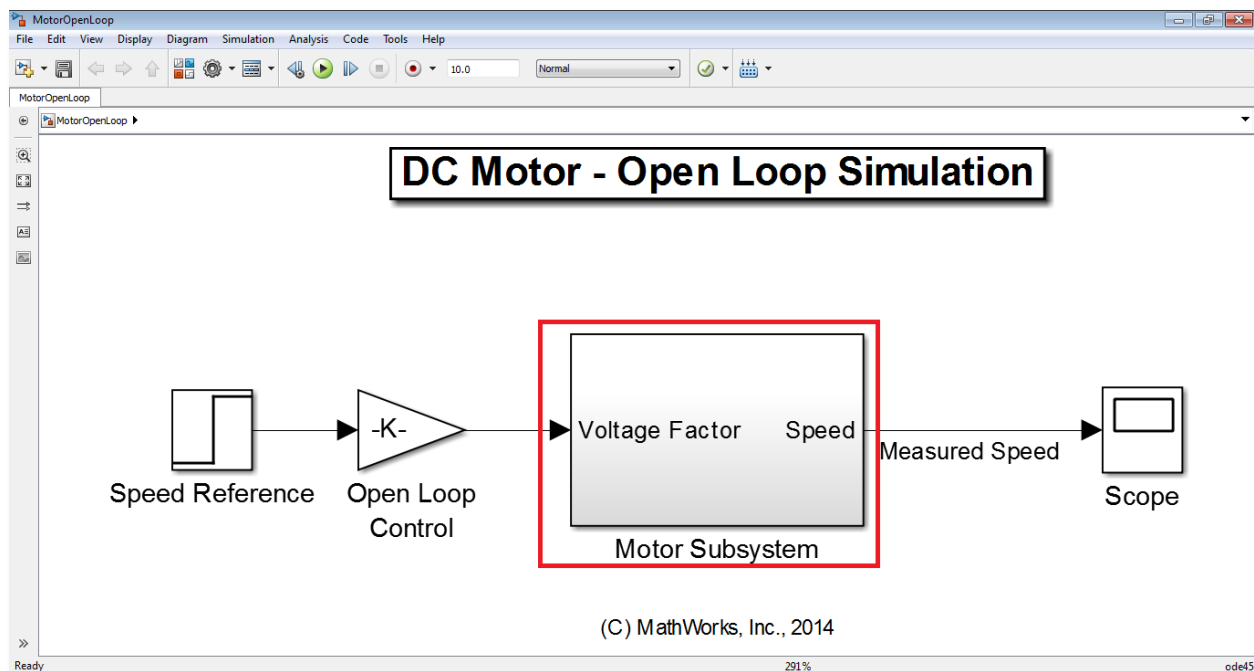

Figure 35 – Motor Simulation Model
1. Open the model 'MotorOpenLoop.slx'. Open the subsystem 'MotorOpenLoop/Motor Subsystem' (Figure 35) to take a look at the motor model.